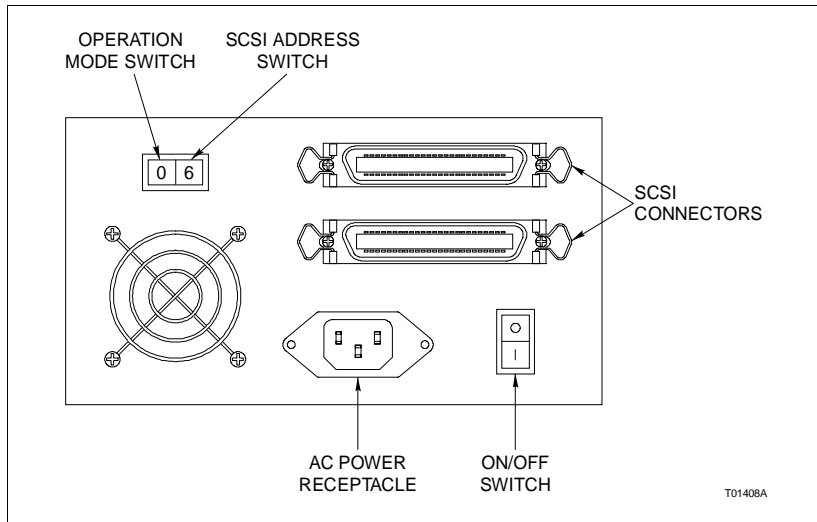

Figure PR40-1. Optical Disk Drive
- 3. Set the SCSI address on the SCSI ID switch located on the rear panel of the optical disk drive to 6 (Fig. PR40-1).